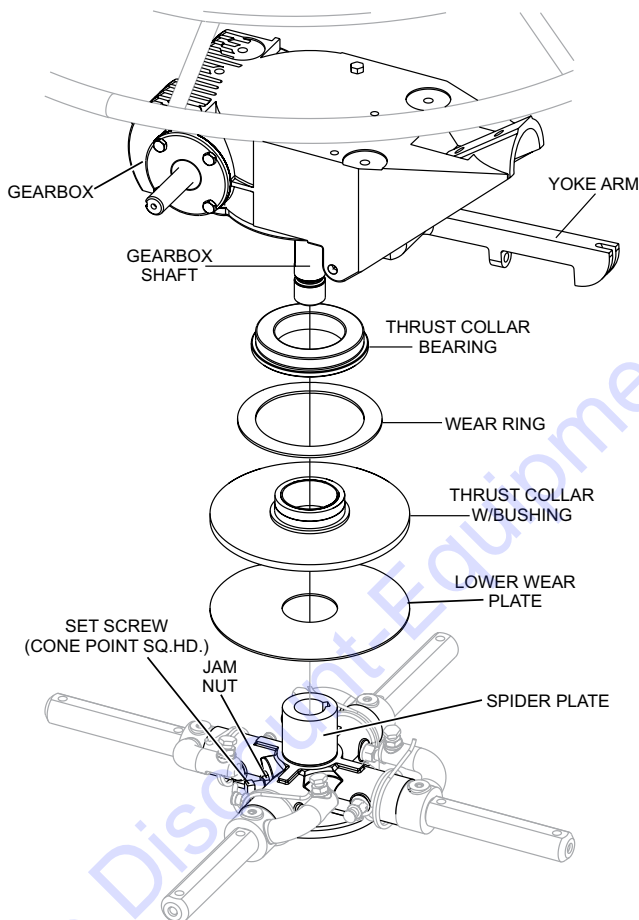

Figure 55. Spider Removal
1. Locate the cone point square head set screw (Figure 55) and attached jam nut found on the side of the spider assembly.